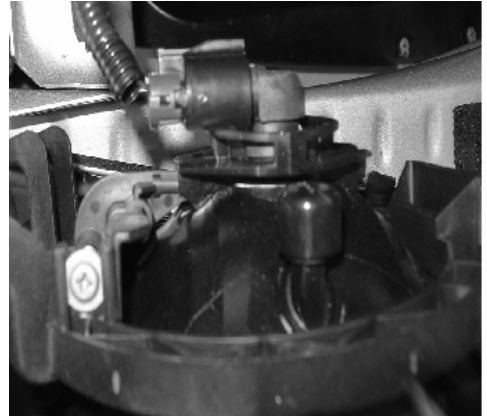
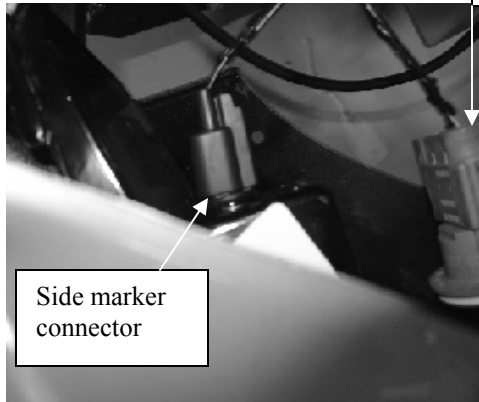

Figure 7
Figure 8
8. Disconnected the running lights, fog lights, and side markers. Figure 7 is the fog light connector and Figure 8 shows both the turn signal and side marker. Figure 9 shows a close up of the running light/turn signal connector. Let the connectors hang until the fascia is ready to be reinstalled.